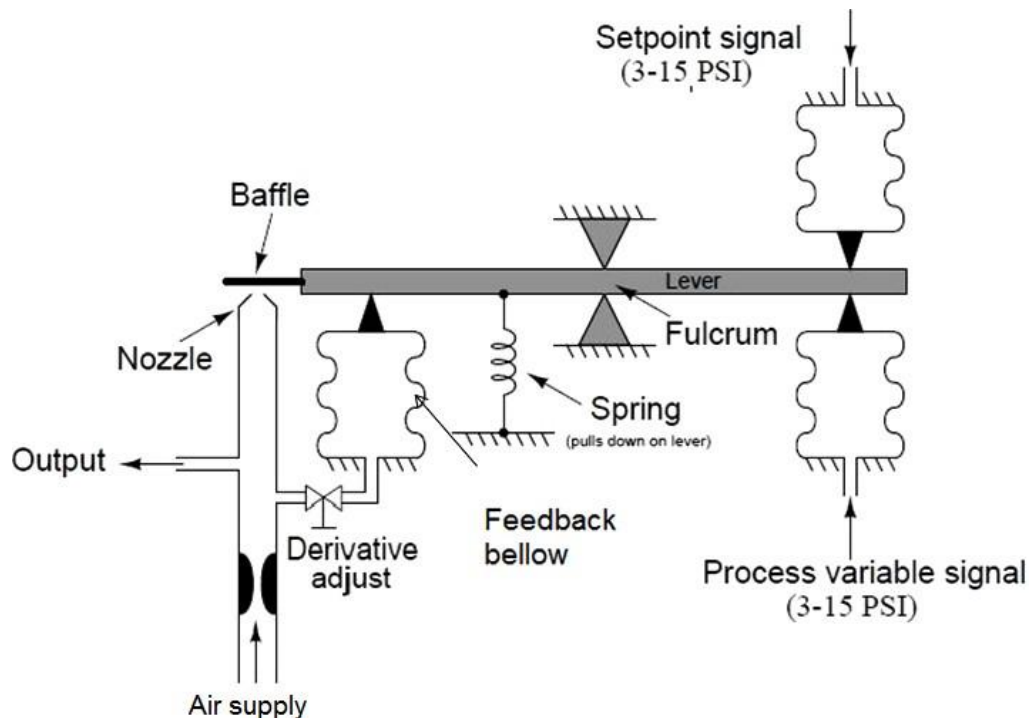

Fig 6.5.6 Proportional-Derivative (PD) controller
2.2 Proportional-Derivative (PD) controller
A proportional-derivative (PD) controller is shown in Figure 6.5.6. To add derivative control action to a P-only controller, all we need to place a restrictor valve between the nozzle tube and the output feedback bellows, causing the bellows to delay filling or emptying its air pressure over time.